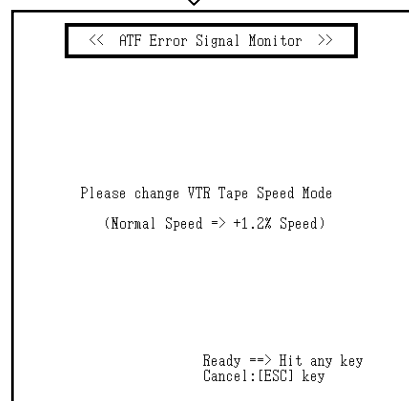

Figure 3-32-2
3. Select the LISTA (6) ATF Error Signal Monitor so that the screen of <ATF Error Signal monitor> appears (refer to figure 3-32-2) Then press Enter to start the software.